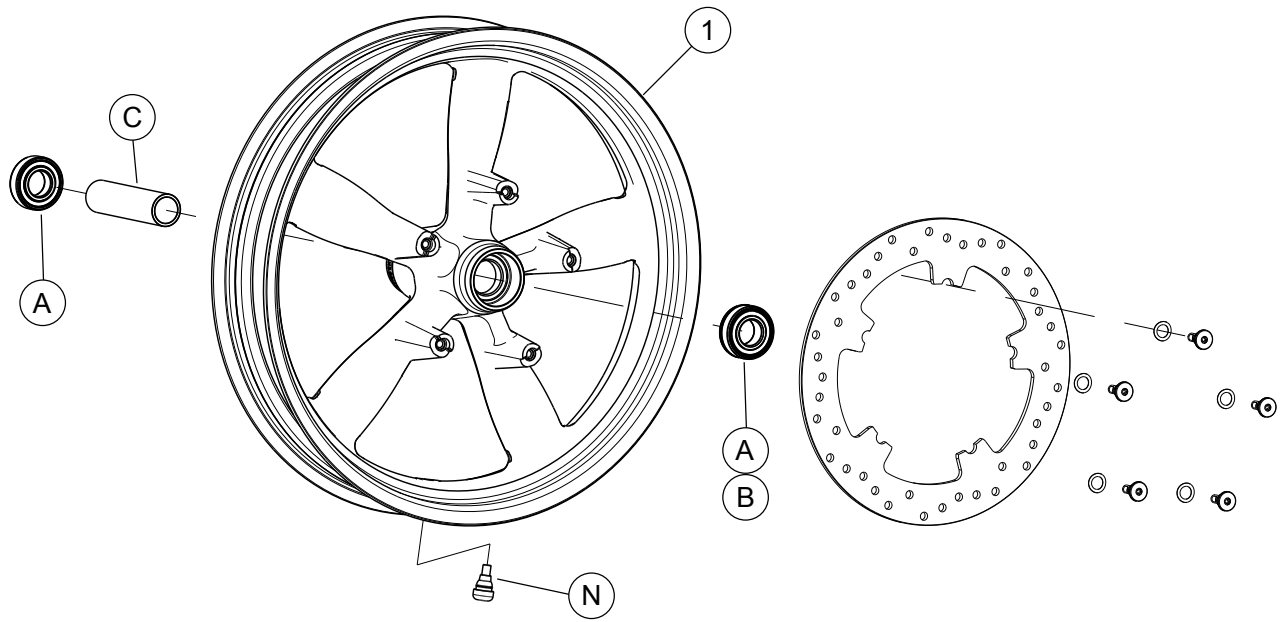

Figure 1. Service Parts: Vapor Front Wheel
2. See Figure 1. Install valve stem assembly (N) on wheel. Refer to service manual.